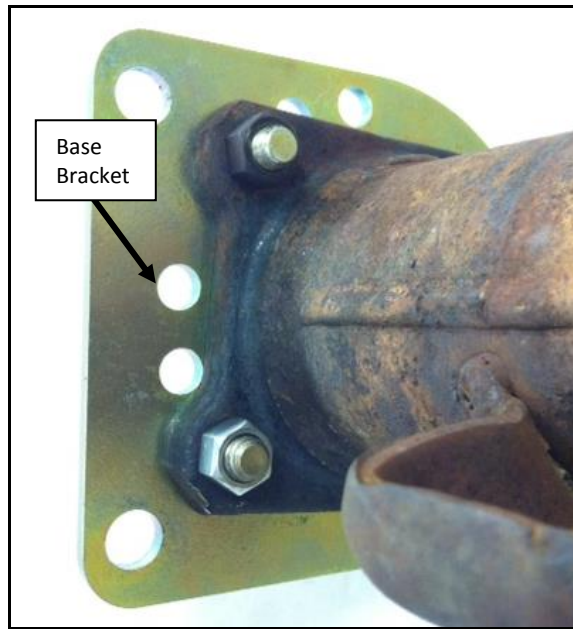

Figure 2: Base bracket (years 63-87), trailing position (inboard view)
6. The base and intermediate brackets are different between model years 63-87 and 88-98 but they are basically installed the same way. See Figures 2, 3 and 4 for reference.
NOTE: The base bracket is designed so that it can mount in either the leading or trailing position. This means that the caliper will mount in front of the axle centerline (if the base bracket is mounted as a leading setup) or behind the centerline of the axle (if the bracket is mounted as a trailing setup). See Figure 2 for reference.